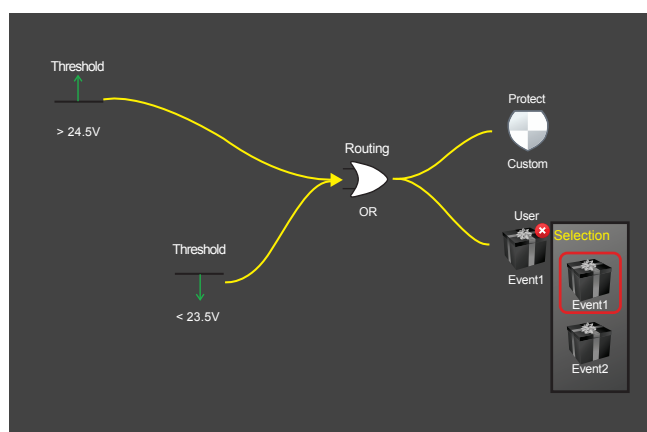

Figure 10. Configuring a trigger expression with the N7906A Power Assistant software
- Perform trigger routing and configure logical trigger expressions (see Figure 10)